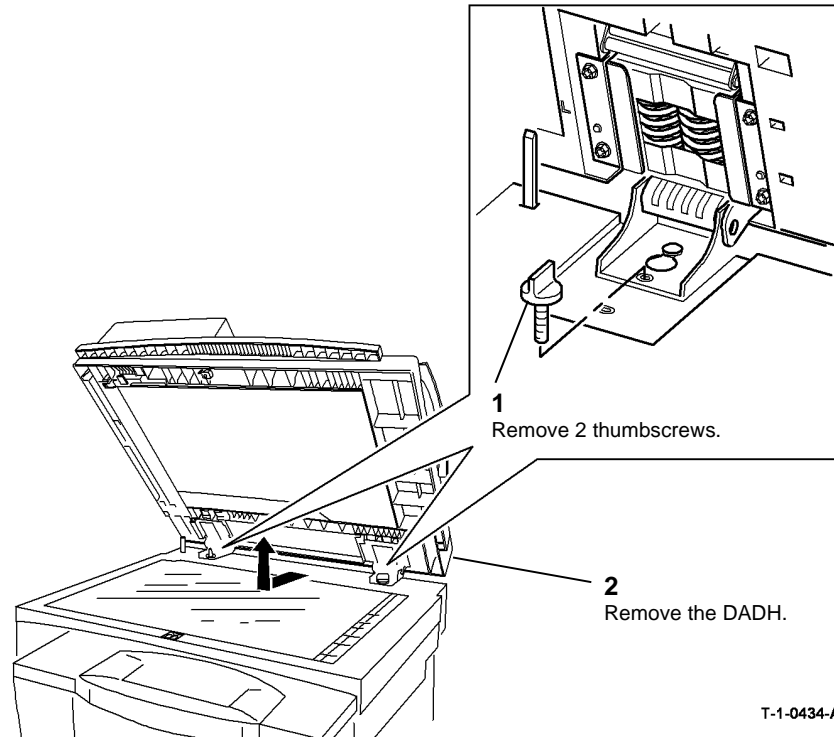

Figure 1 DADH removal
3. Remove the DADH from the machine, Figure 1.